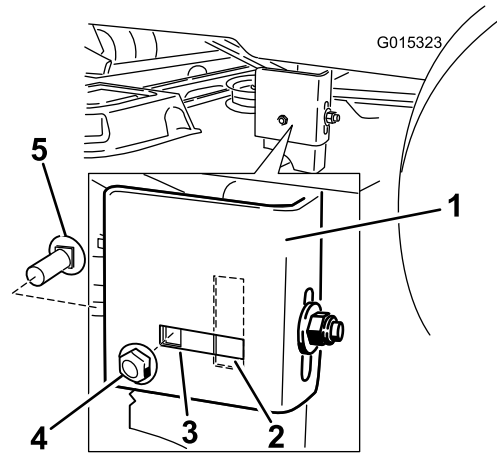

Figure 49
7. Move to the left side of the machine. Check if the side carriage bolt is in the fixed or slotted position (Figure 49).
8. If the side carriage bolt is in the fixed position, remove the side carriage bolt and side locking nut from the fixed position and install it into the slotted adjustment position (Figure 49).
9. Loosen the rear locking nut on the hanger bracket (Figure 49).